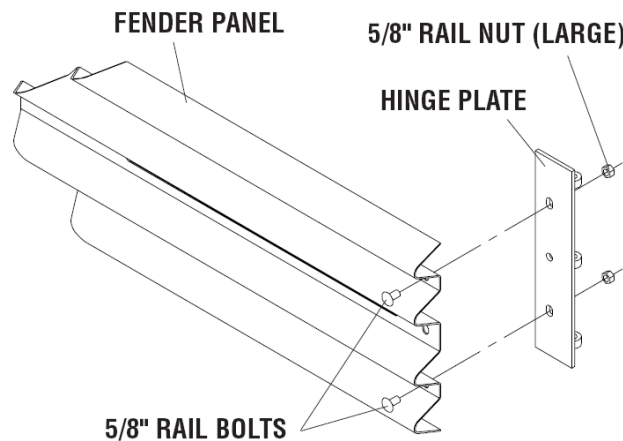

Figure 62
Attach Hinge Plate on each Fender Panel using two (2) 5/8" rail bolts and two (2) 5/8" rail nuts, using top and bottom holes only, leaving the center-hole open as shown in Figure 62.